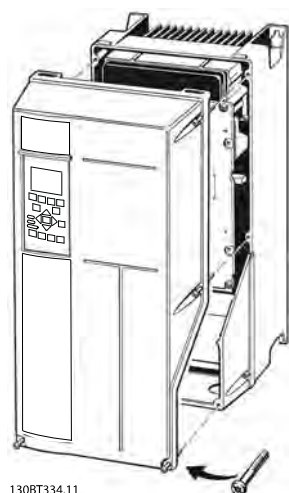

Figure 2.27 Control Wiring Access for IP55/ Nema 12 and IP66/ Nema 4X
- Or remove front cover by loosening attaching screws. See Figure 2.27.